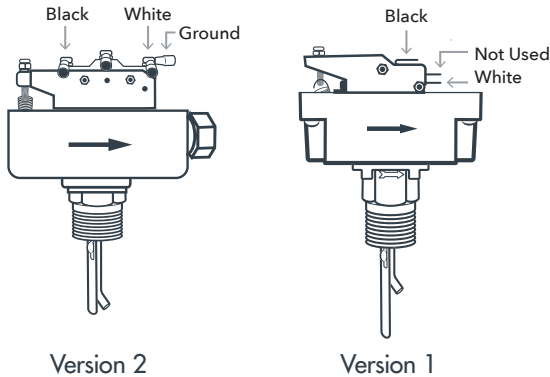

Figure 3:
8. Align the Control Unit's cable base slot to the Cartridge Unit's top connector slot, gently push down and rotate a quarter turn. See Figure 3 for details.